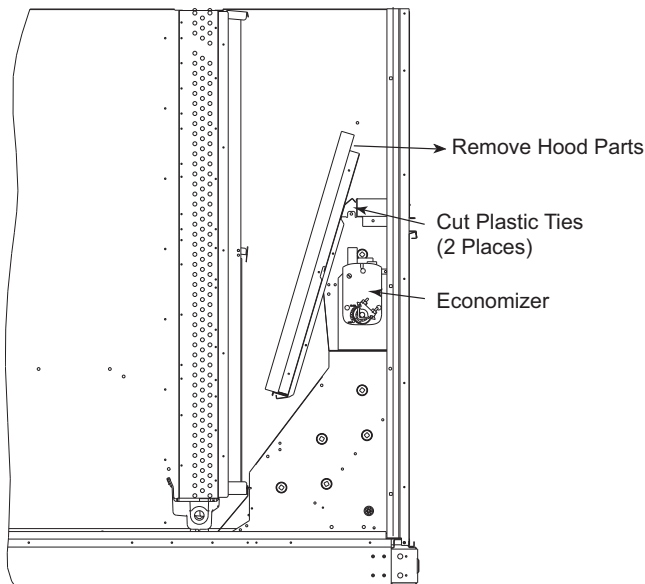

Fig. 19 — Economizer Hood Package Location
2. Locate and cut the 2 plastic tie-wraps, being careful to not damage any wiring. See Fig. 19.